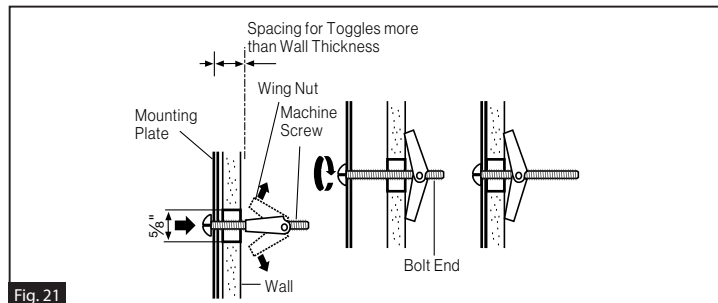

Fig. 21
3. Tighten all bolts. Pull the plate away from the wall to help tighten the bolts. (Fig. 21)